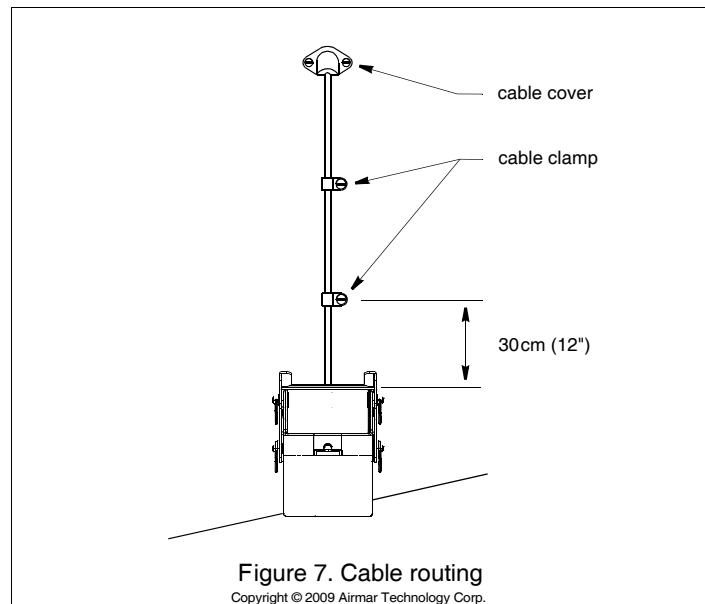

Figure 7. Cable routing
1. If a hole must be drilled through the transom, choose a location **well above the waterline** (see Figure 7). Check for obstructions such as trim tabs, pumps, or wiring inside the hull. Mark the location with a pencil. Drill the hole using the appropriate size bit to accommodate the connector.